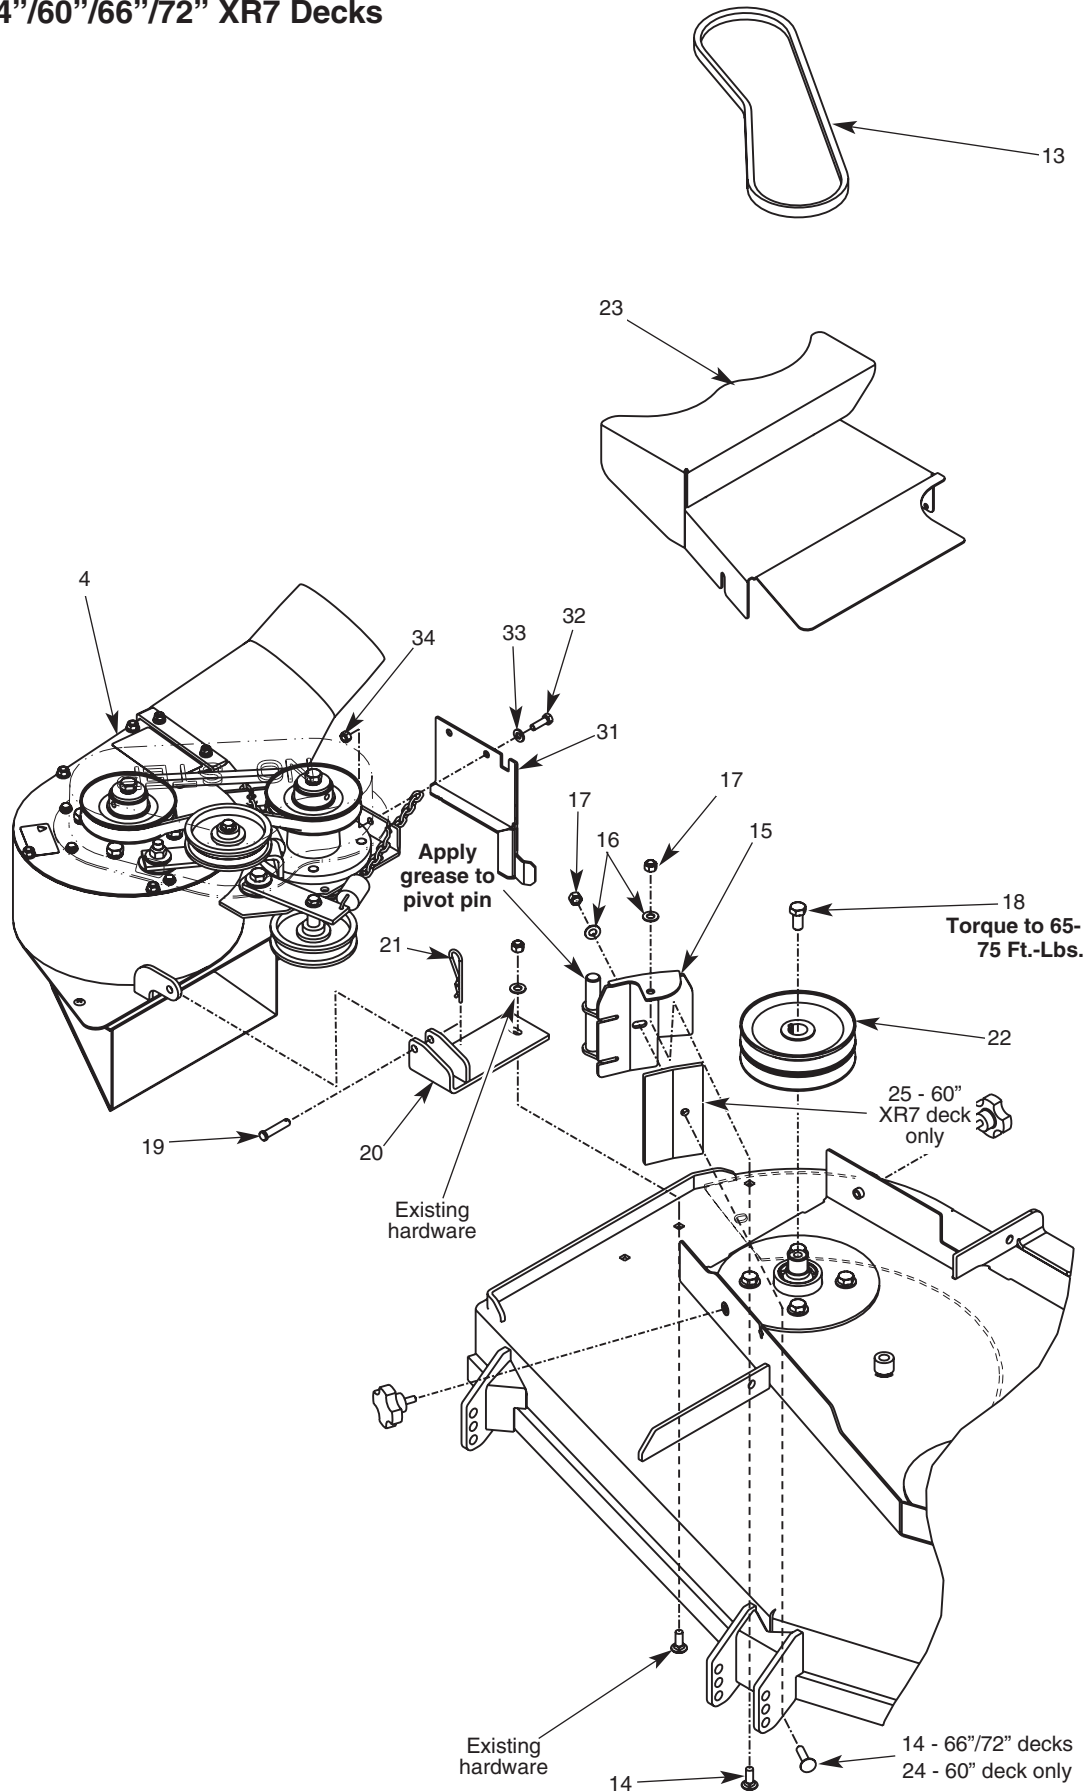

Figure 3-2
When mounting the BAC-VAC™ to a 54" XR7 deck, an adapter kit, p/n 107110, must be used. The following parts are included with this kit. Fig. 3-2
When mounting the BAC-VAC™ to a 60" XR7 deck, an adapter kit, p/n 107128, must be used. The following parts are included with this kit. Fig. 3-2
When mounting the BAC-VAC™ to a 66" XR7 deck, an adapter kit, p/n 107136, must be used. The following parts are included with this kit. Fig. 3-2
When mounting the BAC-VAC™ to a 72" XR7 deck, an adapter kit, p/n 107144, must be used. The following parts are included with this kit. Fig. 3-2
4. Attach the blower mount (Ref. #20), supplied with the correct adapter kit, to the deck per Fig. 3-2.
5. Attach the blower mount pivot (Ref. #15), supplied with the correct adapter kit, to the deck per Fig. 3-2.
6. Attach blower guard (Ref. #31) to the blower assembly. Fig. 3-2
7. Attach the blower assembly to the deck per Fig. 3-2.
9. Install and route the blower belt (Ref. #13), supplied with the correct adapter kit, to the deck per Fig. 3-2. .